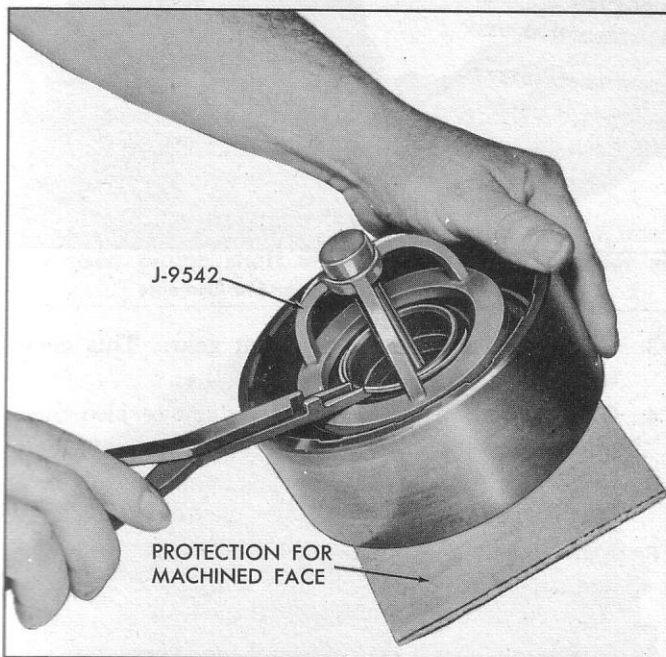

Fig. 27—Removing Clutch Spring Retainer Snap Ring
4. Remove the spring retainer using J-9542 as shown in Figure 27, or if using an arbor press, use J-5133 and J-7782 adapter ring. Compress the springs far enough to allow removal of the retainer snap ring; then, releasing pressure on the springs, remove the retainer and the 24 springs.